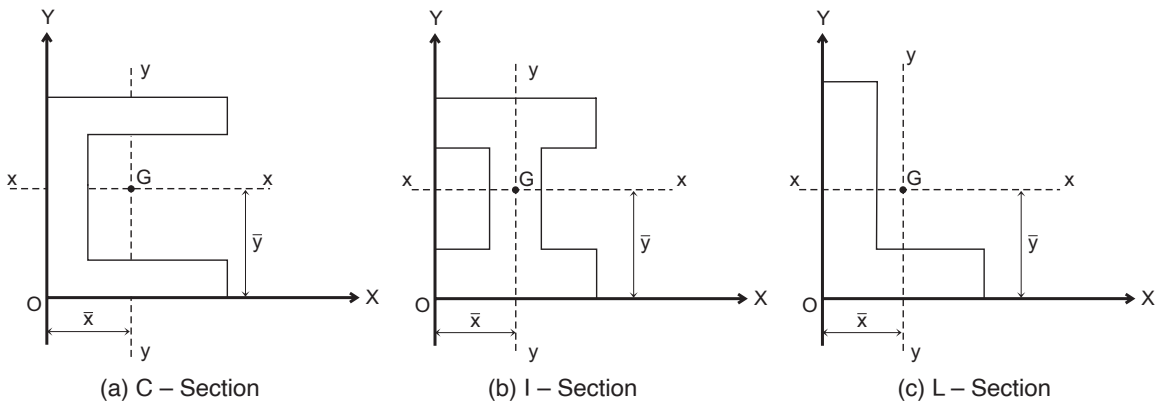

Fig. 4.3: Axis of symmetry
- C- Section (Channel)** [fig. 4.3(a)] Section is symmetrical about x - x axis. So \bar{y} is directly available and \bar{x} is to be calculated.
- I-Section** [fig. 4.3(b)] Section is symmetrical about both x - x and y - y axis. So \bar{x} and \bar{y} both are directly available.
- L-Section (Angle Section)** [fig. 4.3(c)] Section is not symmetrical about any axis. So \bar{x} and \bar{y} both are required to be calculated.